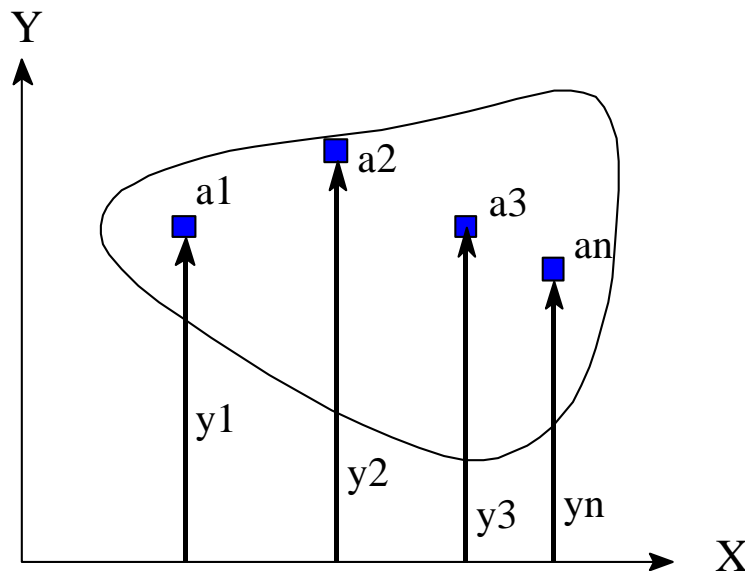

Figure 2-10 – Showing the Calculation of a Centroid of an Irregular Plane Area
Both centroids and centers of mass can be found by doing weighted averages as discussed in chapter one. For example, Figure 2.10 is a two dimensional uniform body with an irregular shape. The “Y” location of the centroid of this shape can be found by breaking the area up into little pieces and finding the average “Y” distance to all the area. This can be repeated for the “X” location of the centroid. This will result in the coordinates of the centroid of the area shown with respect to the arbitrary coordinate system chosen.
1. “Weight” each differential area element by its distance from some reference (i.e.,  $y_1a_1, y_2a_2, \dots y_na_n$ ). In Figure 2.10, the reference is the x-axis.